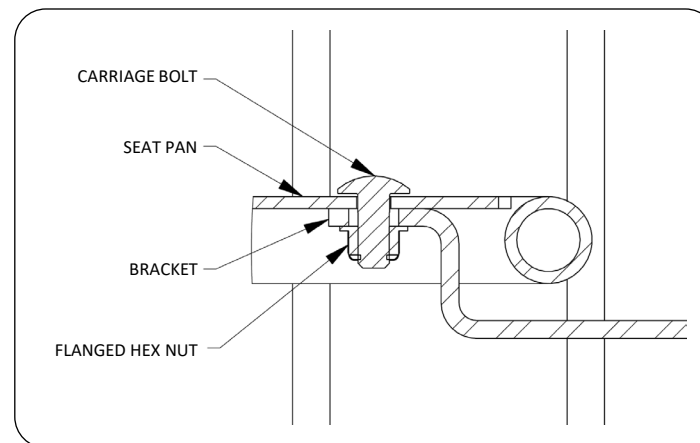

FIG 5 – BRACKET HARDWARE ASSEMBLY
3. Install flanged hex nuts, with flange closest to bracket, see Fig. 5.